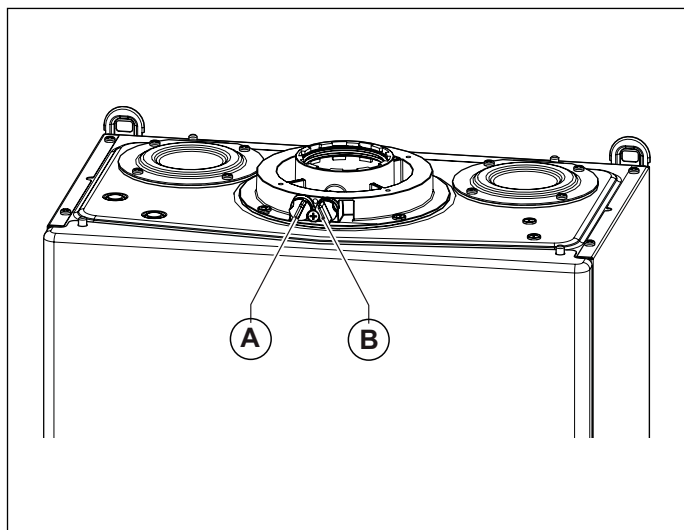
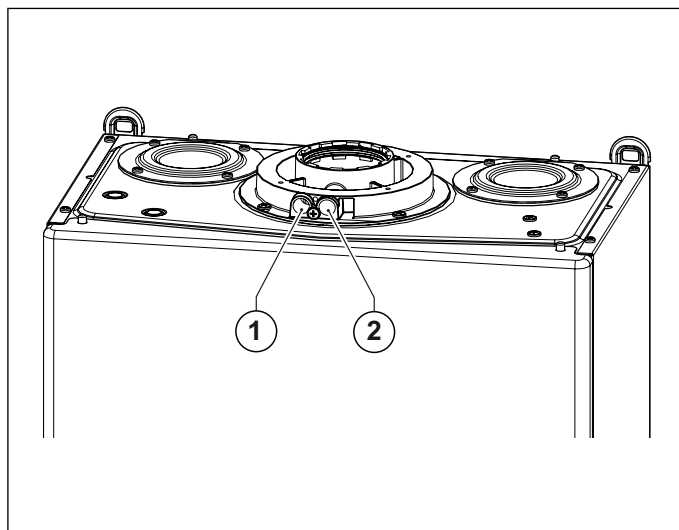

Fig. 15 Caps position
Fig. 16 Hole position
The boiler is equipped with a tower allowing for air intake/flue gas venting pipe connection (see Fig. 15 Caps position and Fig. 16 Hole position).
The tower is designed with two pre-arranged openings directly accessing air and flue gas ducts (see Fig. 16 Hole position).
Remove caps **A** and **B** from the pre-arranged openings on the tower, before taking the measurements (see Fig. 15 Caps position).
- assess combustion air from opening **1** (see Fig. 16 Hole position).
- assess flue gas temperature and CO₂ from opening **2** (see Fig. 16 Hole position).